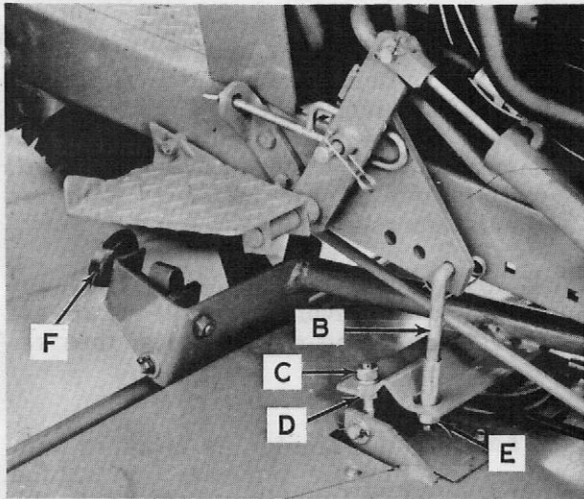

Figure 5. Cutting Height and Fore - Aft Level Adjustments
can be quickly adjusted by turning in or out on the adjusting knob, Reference "F", Figure 5.
adjusting locknut "E", Figure 5 and the lift frame. If the wing nut is set too far "out", the lift rods may jam against the mower deck when crossing obstructions. If the wing nut is set too far "in", the mower will not descend to mowing position. The 1/2" nut to lift frame clearance provides adequate float for the mower suspension.
3. The mower must be level, fore and aft. To check for proper level, tire pressures must be correct and equal. Take measurements between a level surface and the blade tips with the mower set at desired cutting height and gauge wheels in contact with floor. Take measurements as close to the front and rear ends of the mower as possible. To raise the front of the deck, loosen the lower nut "D", Figure 5 on each adjusting link. Turn the upper adjusting nuts "C" downward until proper deck level is obtained. Then tighten the lower nuts to lock. To lower the front of the deck, back off adjusting nuts "C" and lock the lower nuts "D".
4. This mower is designed to provide an approximate cutting height range from 1-1/2 to 3-1/2 inches with infinite adjustment available in between. To increase the cutting height (lower the gauge wheels), turn the adjusting knob, Reference "F", Figure 5, clockwise. To raise the gauge wheels or decrease the cutting height, turn the adjusting knob counterclockwise. The mower should be raised into transport before increasing the cutting height to facilitate adjustment.